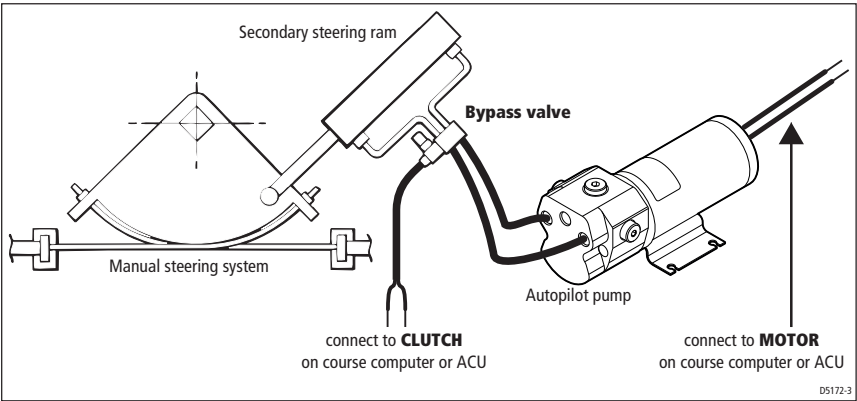

Figure 10
- Install the solenoid-operated bypass valve (part number: M81167) across these pipes (as shown in *Figure 10*).